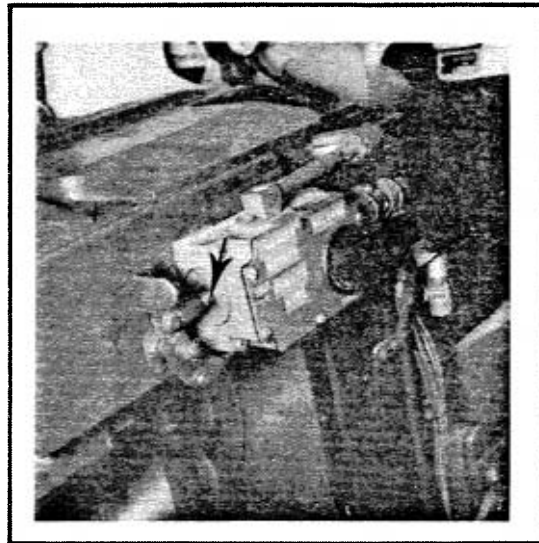

FIG 3-46 LOADER'S SAFETY - "SAFE"
d. Loader's Safety (Fig. 3-45). The loader's safety is located on the right side of the gun carriage. This safety is a two-position device. When the lever is pushed in, the safety is in the "FIRE" position. When the black button on the side of the safety is pushed in, the lever springs to the extended position and the safety is in the "SAFE" position (Fig. 3-46).